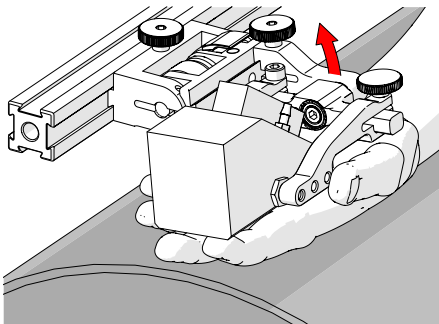

Fig. 94 - Lift to latched position
1. Ensure the probe holder is in the latched upper position (Fig. 94). If the probe holder is already latched, it will only move within the slip joint adjustment range and have no spring tension.
1. Ensure the probe holder is in the upright latched position (Fig. 94).